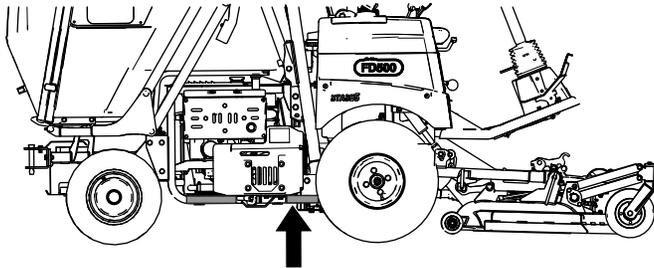
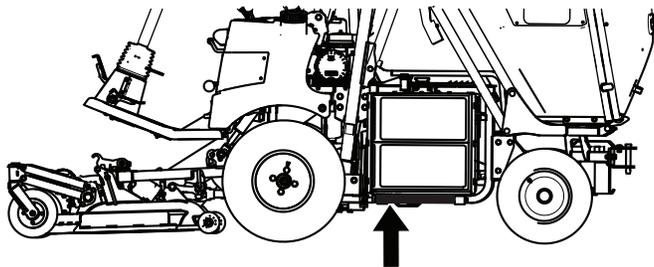

Figure 34
Figure 35
2. Place a jack under the frame tube (Figure 34 and Figure 35), directly under the ROPS tube, or as close as possible.